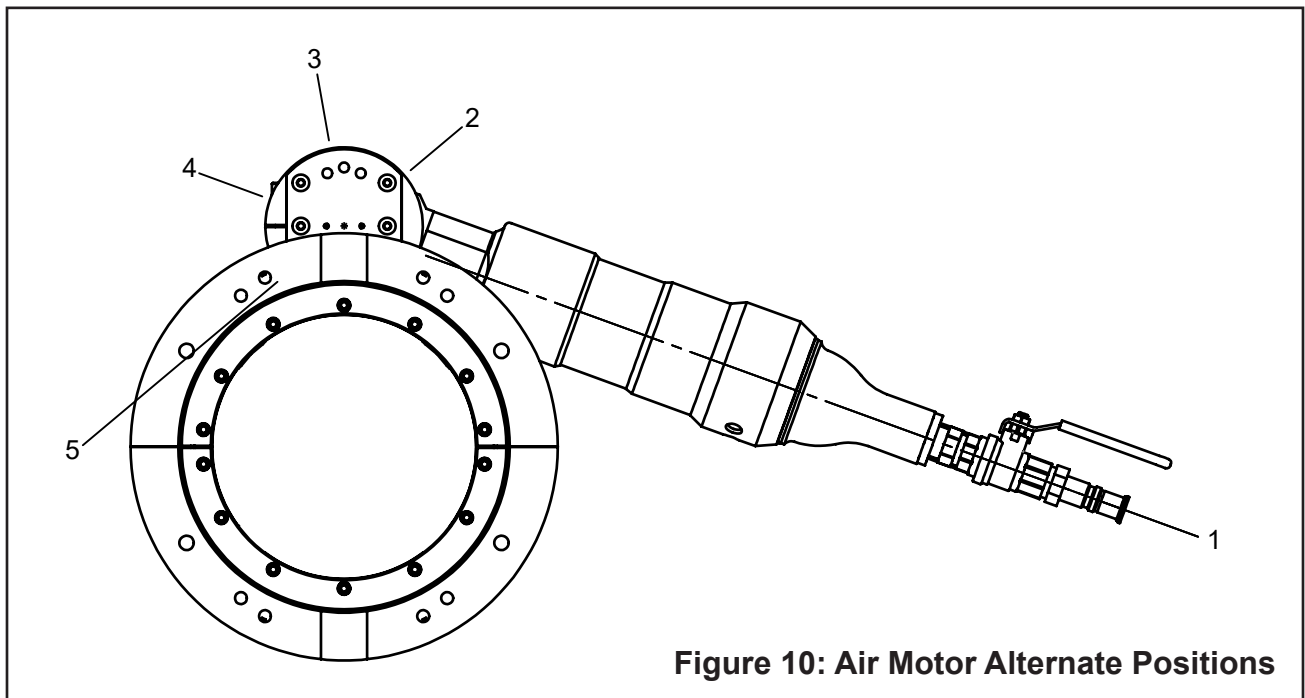

Figure 10: Air Motor Alternate Positions
There are five (5) alternate orientations available so that clearance for the Air Motor may be obtained (refer to Fig. 10).